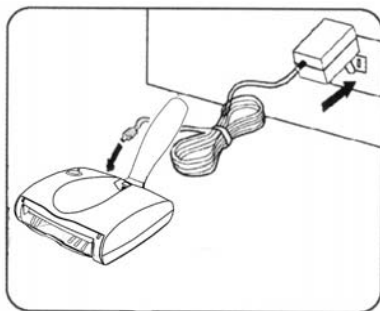

Fig. 6
1. Connect the charger plug to the charging jack or hole on the back of the hand sweeper. Plug the the charging adapter into the wall outlet. (120V.,60Hz.) Use only the charger supplied by the manufacturer, rated output DC 6V, 100mA. (Fig. 6),